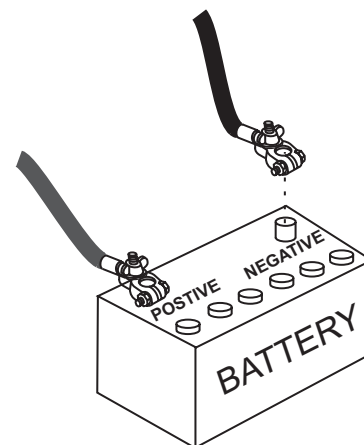

Figure 38. Battery Connections
3. Connect the negative battery cable (BLACK) to the negative post on the battery (Figure 38).